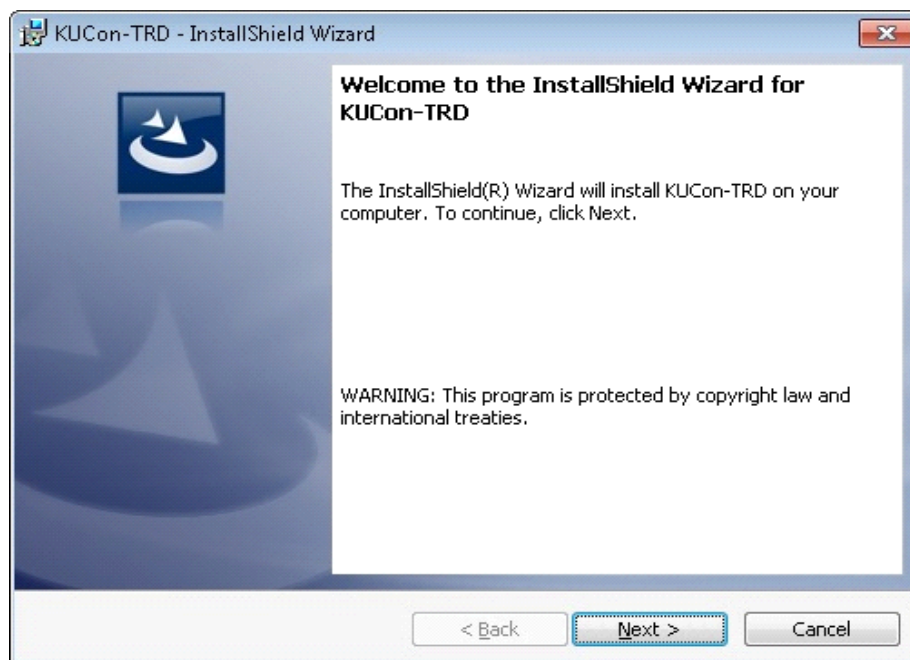

Figure 2-3: InstallShield Wizard
2. Click **Next** after the Install Shield Wizard opens, as shown in Figure 2-3.